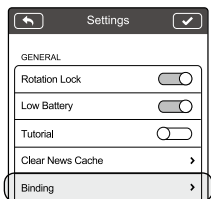

Figure 36
- (1) Power on the camera and Range Extender.
- (2) Approximately 30 seconds later, press the Binding Reset Button on the Range Extender with a pin until the SYSTEM Indicator turns off. The Range Extender will then restart automatically.
- (3) Approximately 30 seconds later, the SYSTEM Indicator will start to blink green, indicating that the Range Extender is ready for binding.
- (4) Enable Wi-Fi on your mobile device then select "Phantom\_XXXXXX" (the SSID of your Range Extender) from the Wi-Fi network list.
- (5) Run the DJI VISION App then tap -> Settings -> General -> Binding (Figure 36). Select 'Scan QR Code' to scan the camera QR code on the bottom of aircraft (Figure 37). Get the camera SSID (E.g. FC200\_XXXXXX) and the MAC address (Figure 38). You can also skip the scan and enter the camera MAC address directly (Figure 39). The MAC address can be found on the camera label.
- (6) Tap the tick  in the top right corner. The Range Extender should automatically restart. Binding is now complete.